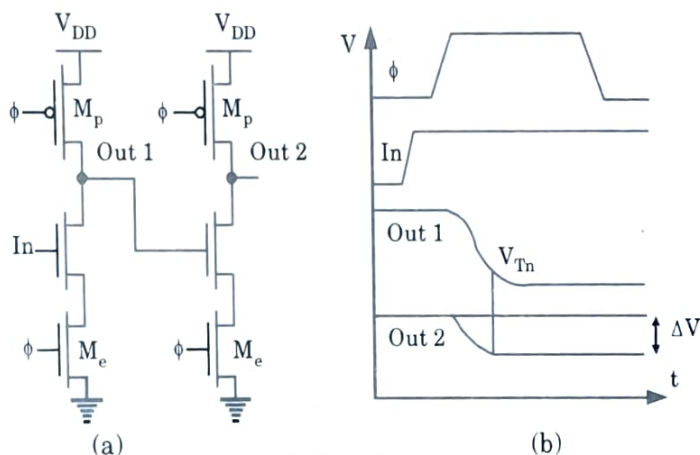

Fig. 3.7.5. Cascading dynamic gates.
1. Cascade dynamic gate is a combination of two simple inverters connected in series, as shown in Fig. 3.7.5.